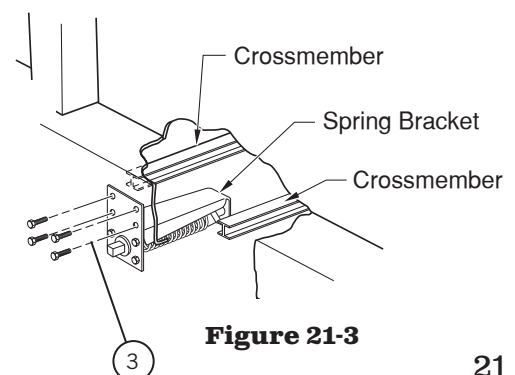

Figure 21-3
- 4) Position the driver's side spring assembly (1) to the point marked on the driver's side (B). Clamp the spring assembly into position centering the mounting plate on point B. The top of the mounting plate should be as high as possible from the bottom of the box.
- 5) **Figure 21-3.** Drill four 13/32" holes using the mounting plate as a guide.
- 6) Bolt the spring assembly to the box or rail with 3/8-16 x 1 1/4 hex bolts (3), 3/8 flat washers (4), and 3/8-16 nylon hex nut (5).